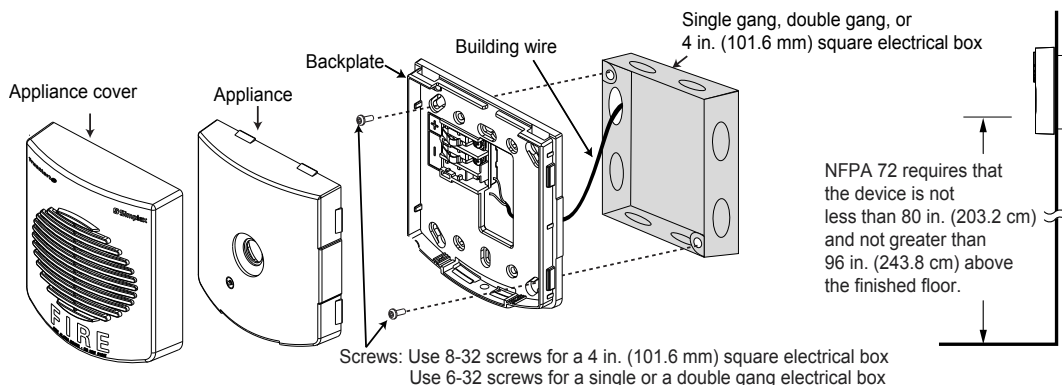

Fig 1: Mounting Instructions
- Select the mounting location and install the electrical box using screws suitable for the mounting surface. See Figure 1 for mounting and location information.